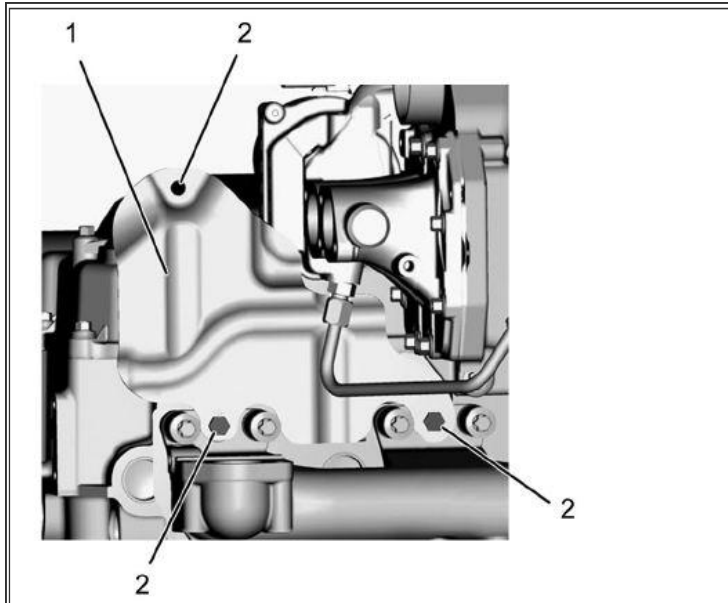

Figure 13: EGR Heat Shield
28. Install EGR heat shield (**Figure 13**, Item 1) with five M8 x 12 bolts (**Figure 13**, Item 2).